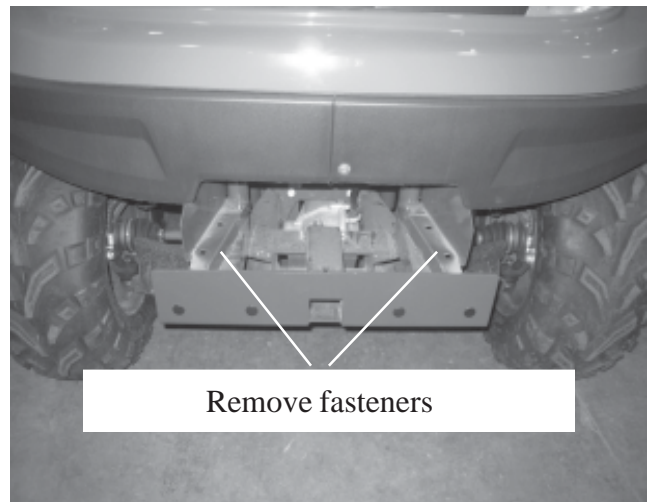

Figure 1
1. Remove the factory winch plate, by removing the four 10mm bolts securing the factory winch plate, Figure 1.